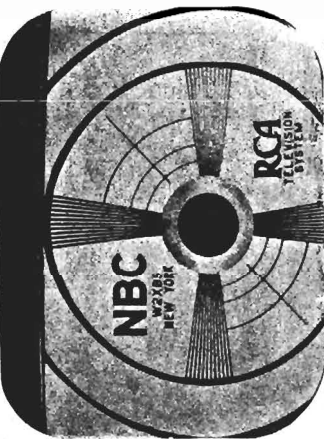

Figure 9—INCORRECT VERTICAL CENTERING
5. **Vertical Centering**—The screwdriver adjustment at the bottom of the row serves to center the picture vertically on the Kinescope screen and is made at the time of installation. It will require resetting whenever the receiver location is changed, the cabinet turned around, or the Kinescope replaced. See Figure 9.